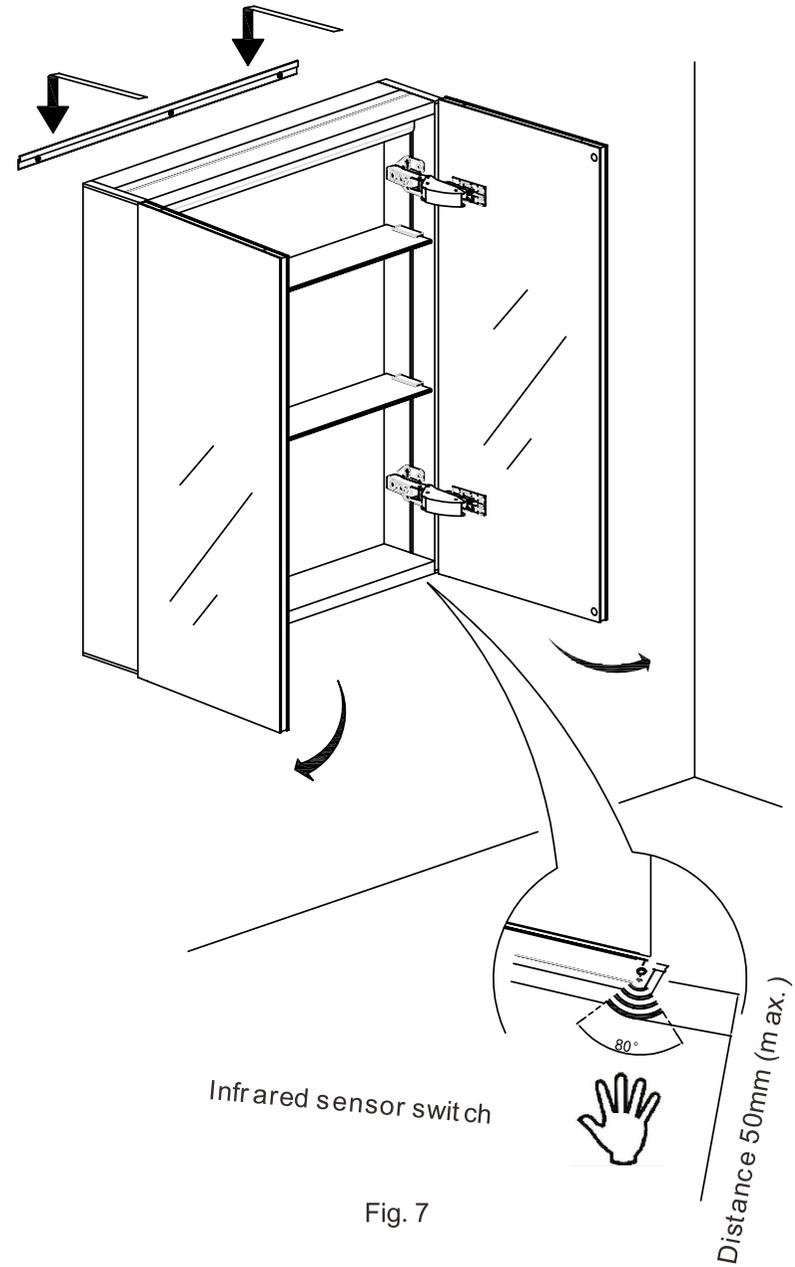

Fig. 7
2.4 Finally, turn on the main switch, and test if the switch works normally (Fig. 7).